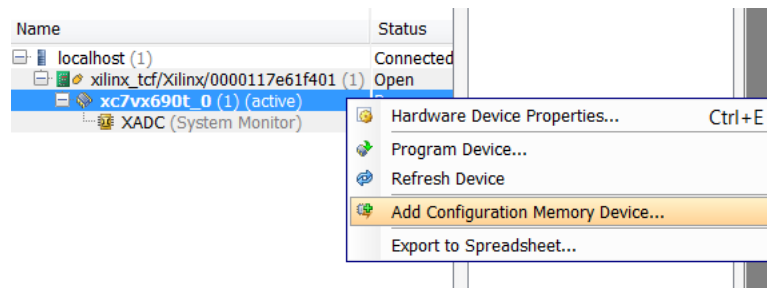

Figure A-8: Add Configuration Memory Device
- Right-click the FPGA device and select **Add Configuration Memory Device** (see Figure A-8).